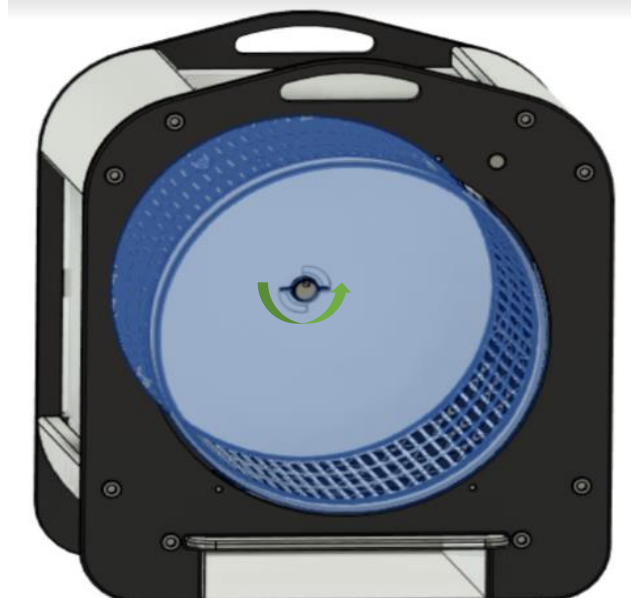
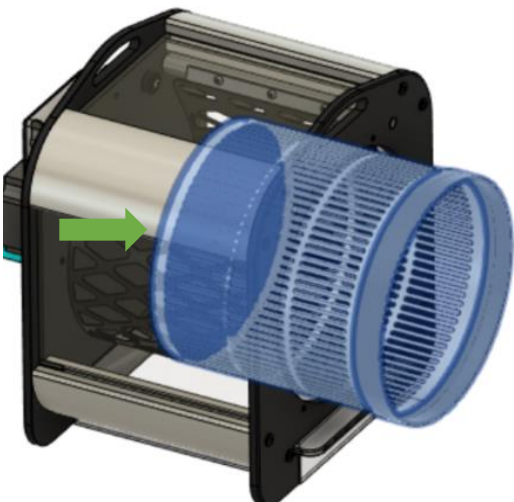

Fig. 14
Fig. 15
6. Twist the tumbler counter-clockwise to unlatch it from the motor drive coupling (see Fig. 14), then pull it gently off the motor drive coupling (see Fig. 15).